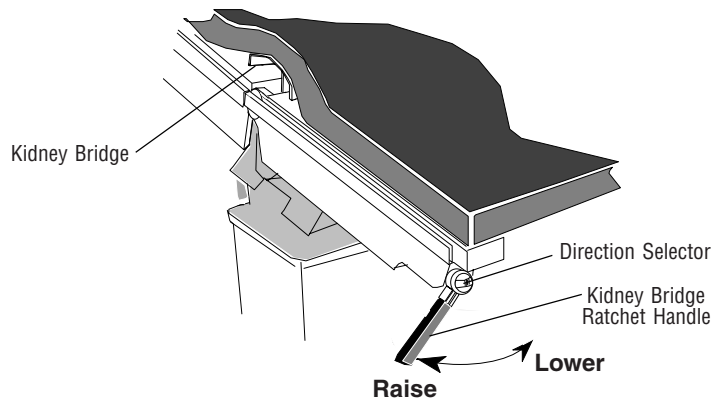

Figure 4-9. Kidney Bridge Adjustment
1. Locate kidney bridge ratchet handle (under left side of back section) and flip it down (spring-loaded). See Figure 4-9.